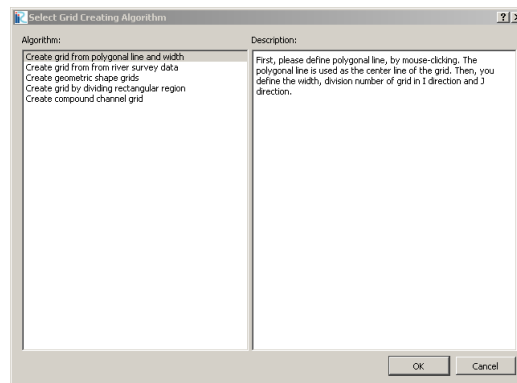

Figure 5. Example of the Select Grid Creating Algorithm dialog.
- In the **Menu Bar** select Grid ► Select grid creating algorithm. This opens a dialog (Figure 5), select “Create grid from polygonal line and width.” Click OK. Another dialog will open providing instructions on using this feature. Click OK.